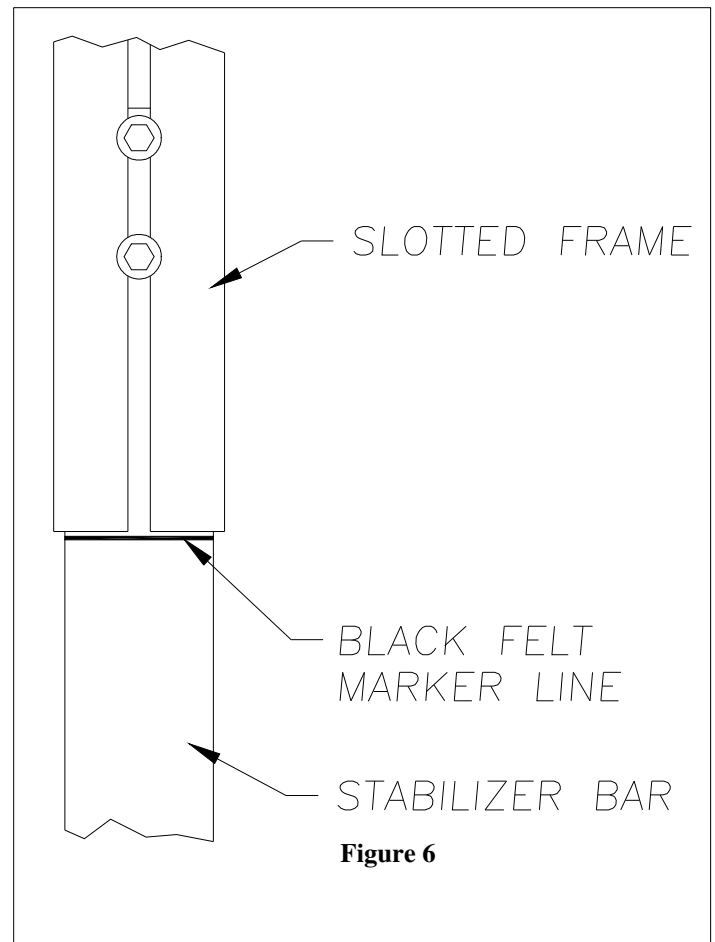

Figure 6
1. A black felt marker line on the stabilizer bar shows just below the bottom edge of the slotted frame (See Fig. 6), and/or